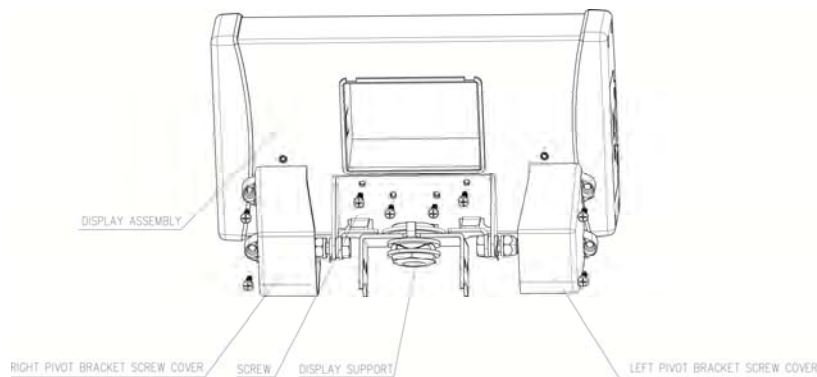

Figure 6
13. Rotate the display support so that it is perpendicular to the handrail (see Figure 6). Position the display assembly close to the display support. Plug the load cell cable connector into the load cell port on the rear of the display assembly. The port is labeled "LOAD CELL" (see Figure 7).